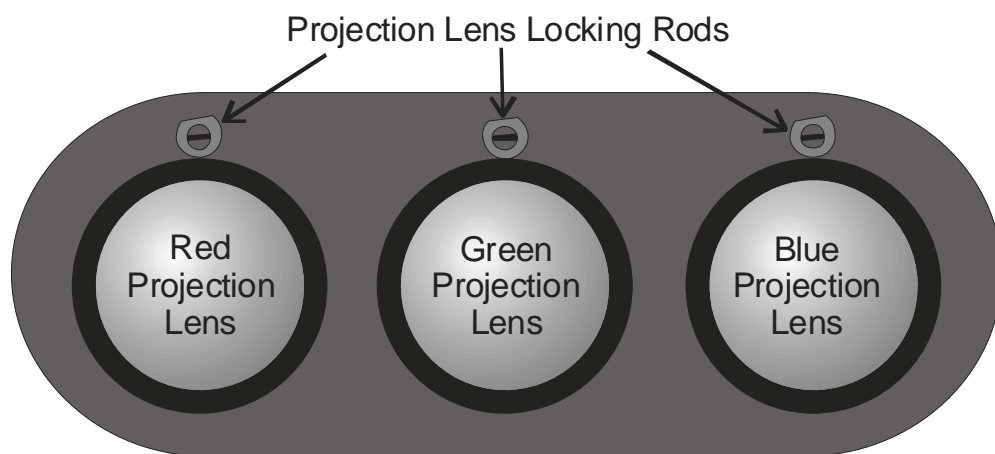

Figure 3-14 Locking rods on Projection Lenses.
3. Rotate the green lens locking rod (*see Figure 3-14*) 1/4 turn counterclockwise using the large Flatblade screwdriver. The lens locking rods are located on top of each projection lens.
1. Rotate the green lens locking rod (*see Figure 3-14*) 1/4 turn counterclockwise using the large Flatblade screwdriver. The lens locking rods are located on top of each projection lens.